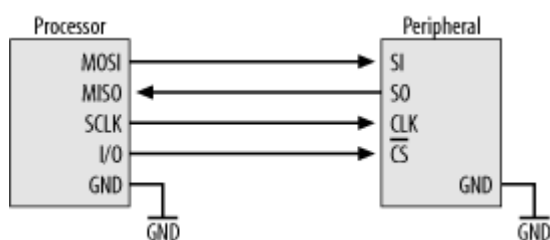

Figure 9-1. Basic SPI interface
MOSI is generated by the master and is received by the slave. On some chips, **MOSI** is labeled simply as Serial In (SI) or Serial Data In (SDI). **MISO** is produced by the slave, but its generation is controlled by the master. **MISO** is sometimes known as Serial Out (SO) or Serial Data Out (SDO) on some chips. The chip select to the peripheral is normally generated by simply using a spare I/O pin of the master. **Figure 9-1** shows a microprocessor interfaced to a peripheral using SPI.